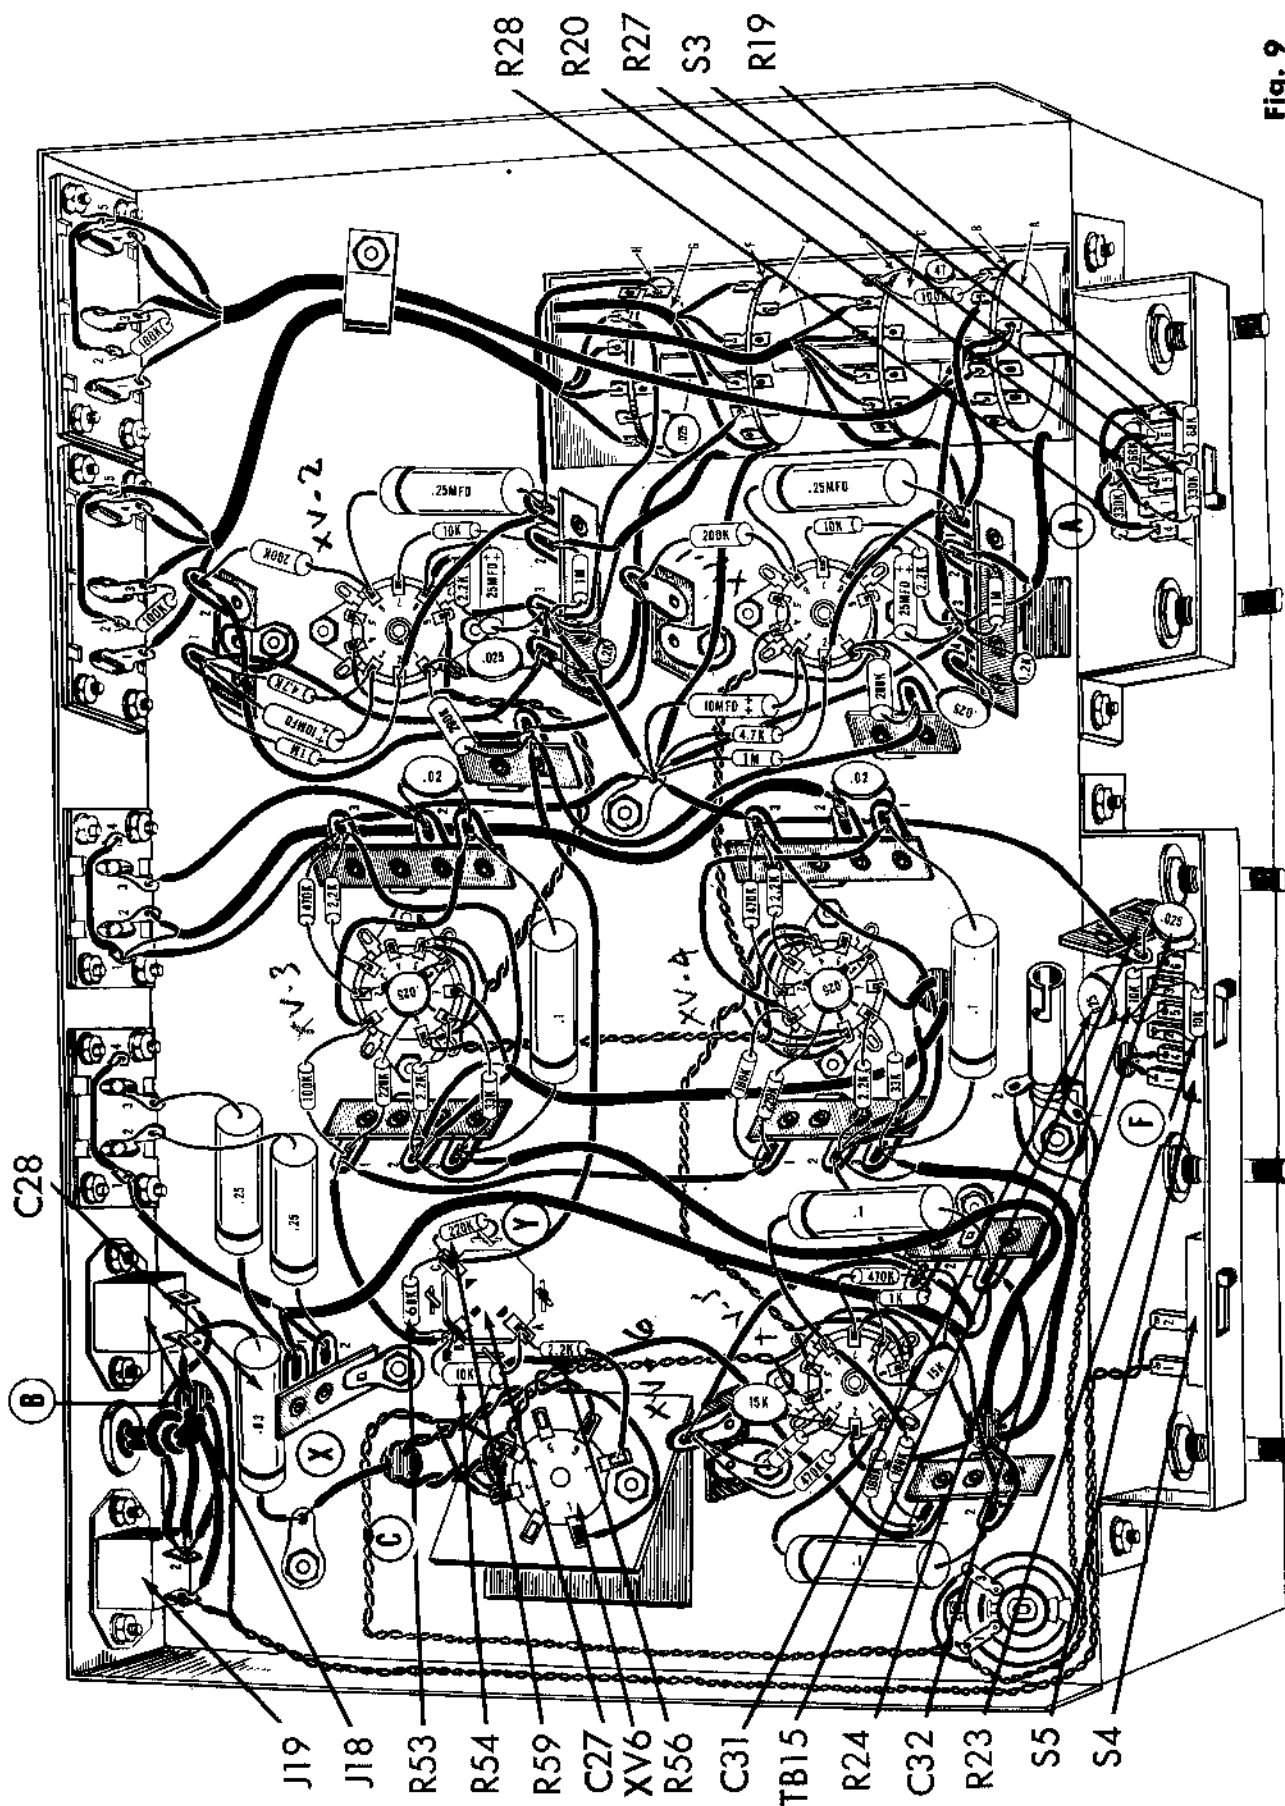

Fig. 9
1. (✓) Fig. 9. On slide switch S3, terminal 1, 2, and 3 are toward the bottom of the chassis (facing the wires) and 4, 5, and 6 are towards the top of the chassis. From hole "A" in the front of the chassis, connect the violet lead to S3-4 (C), the white lead to S3-6 (C), the blue lead to S3-3 (C) and the green lead to S3-1 (C).
2. (✓) Fig. 9. Cut both leads on two 68KΩ (blue, grey, orange, silver) resistors, R19 and R20, to 1/2". Connect R19 from S3-2 (C) to S3-3 (S2) and R20 from S3-5 (S2) to S3-6 (S2).
3. (✓) Fig. 9. Cut both leads on two 330KΩ (orange, orange, yellow, silver) resistors, R27 and R28, to 1/2". Connect R27 from S3-1 (S2) to S3-2 (S2) and R28 from S3-4 (S2) to S3-5 (S2).
4. (✓) Fig. 9. On slide switch S5, terminals 1, 2, and 3 are toward the bottom of the chassis (facing the wires) and 4, 5, and 6 are towards the top of the chassis. From hole "F", connect one blue wire to S5-1 (S1) and the second blue wire to S5-4 (S1).
5. (✓) Fig. 9. Cut both leads on two 10KΩ (brown, black, orange, silver) resistors, R23 and R24, to 1/2". Connect R23 from S5-2 (S1) to S5-3 (S1) and R24 from S5-5 (S1) to S5-6 (S1).
6. (✓) Fig. 9. Cut all leads on two .025mfd (25K or 25,000mmf) disc capacitors, C31 and C32, to 1/2". Connect C31 from S5-3 (S2) to TB15 (C) and C32 from S5-6 (S2) to TB15 (S2).
7. (✓) Fig. 9. Cut both leads on a 2.2KΩ (red, red, silver) resistor, R56, to 3/4". Cover each lead with a 1/2" piece of spaghetti. Connect from XV6-7 (S1) to C27A (S2).
8. (✓) Fig. 9. Cut both leads on a 10KΩ (brown, black, orange, silver) 1 watt resistor, R54, to 1/2". Connect from C27A (S2) to C27B (C).
9. (✓) Fig. 9. Cut both leads on a 68KΩ (blue, grey, orange, silver) resistor, R53, to 1/2". Connect from C27B (S2) to C27C (S1).
10. (✓) Fig. 9. Cut both leads on a 220KΩ (red, red, yellow, silver) resistor, R59, to 1/2". Connect from C27C (S2) to ground lug "Y" (S1) at C27.
11. (✓) Fig. 9. Connect a 3" piece of black wire from J18-2 (S1) to J19-2 (S1).
12. (✓) Fig. 9. From hole "B", connect one black lead to J18-1 (S1) and the second black lead to J19-2 (S1).
13. (✓) Fig. 9. Connect one end of a 13" piece of black wire to J18-1 (S1) and one end of an 11" piece of grey wire to J19-1 (S1). Twist the two leads together and run along the chassis as shown. Connect the grey lead to S4-1 (S1) and the black lead to S4-2 (S1).
14. (✓) Fig. 9. Cut both leads on a .03mfd (orange, black, orange, white, blue) 600 volt, malded capacitor, C28, to 3/4". Cover one lead with a 1/2" piece of spaghetti and connect to J18-1 (S1). Connect the second lead to ground lug "X" (S1).
15. (✓) Fig. 9. Connect the red-yellow lead from hole "C" to ground lug "X" (S2).
16. (✓) Fig. 9. Push the line cord through the grommet between the two convenience outlets, J18 and J19. Tie a knot inside the chassis 3" from the end of the cord to be soldered. Connect one lead to J19-2 (S2) and the other lead to J19-1 (S2).